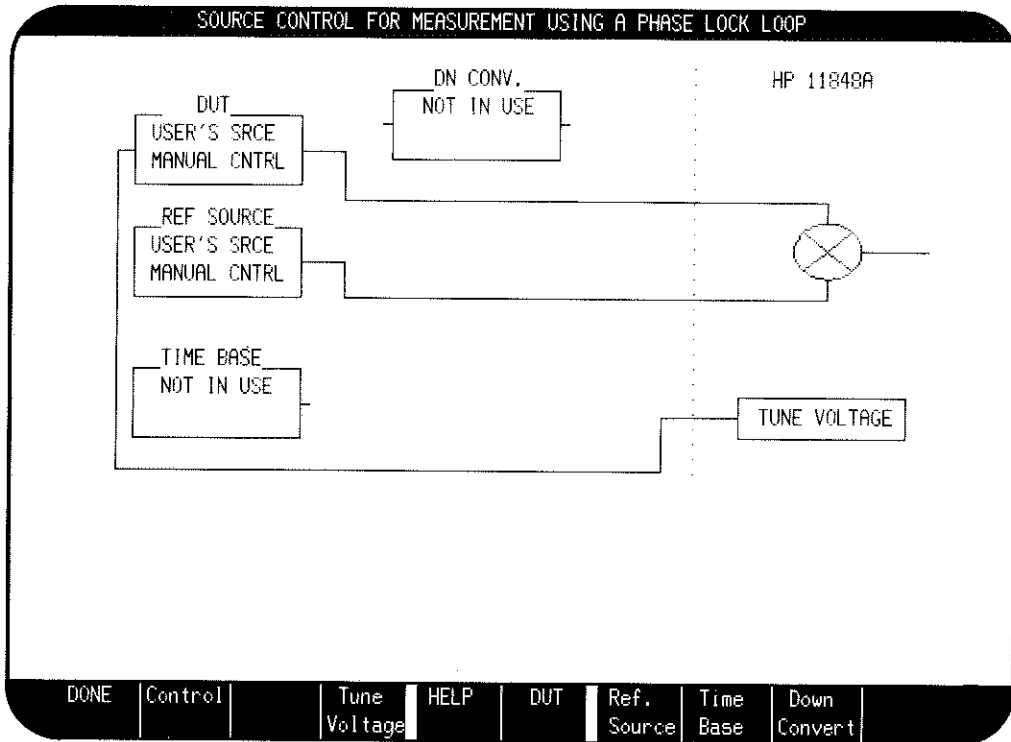

Figure 3-13. Source Control for Measurement Using a Phase Lock Loop Menu
- On the HP 3048A press the **Source Control** softkey to obtain the Source Control for Measurement Using a Phase Lock Loop menu. Set the various devices in the system as shown in figure 3-13. When done, press the **DONE** softkey.